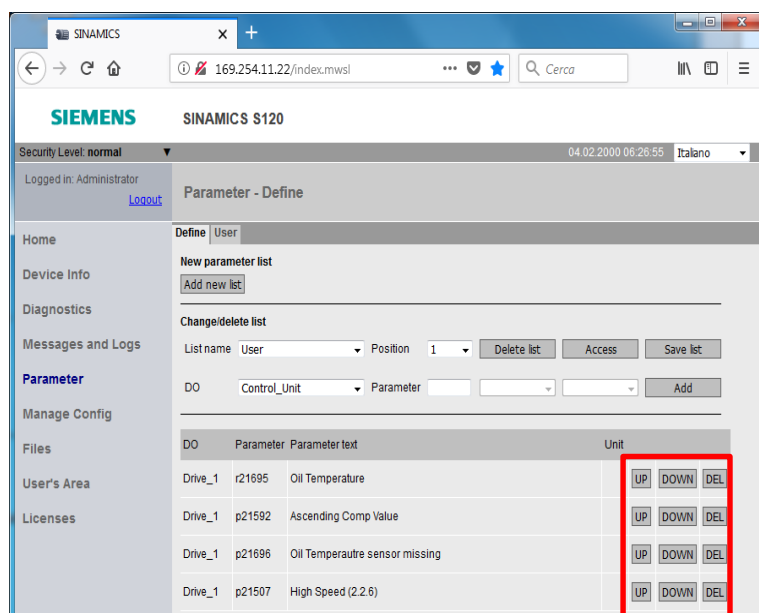

Figure 30 SIEMENS S120, Parameter – Define list
- After adding and saving procedure, the new list name appear on the top. Click on the tab to see the new list and to choose the parameter. For each line there are *UP* and *DOWN* buttons that allows to move the parameter position on the parameters list. Click *DEL* to eliminate (Figure 30)